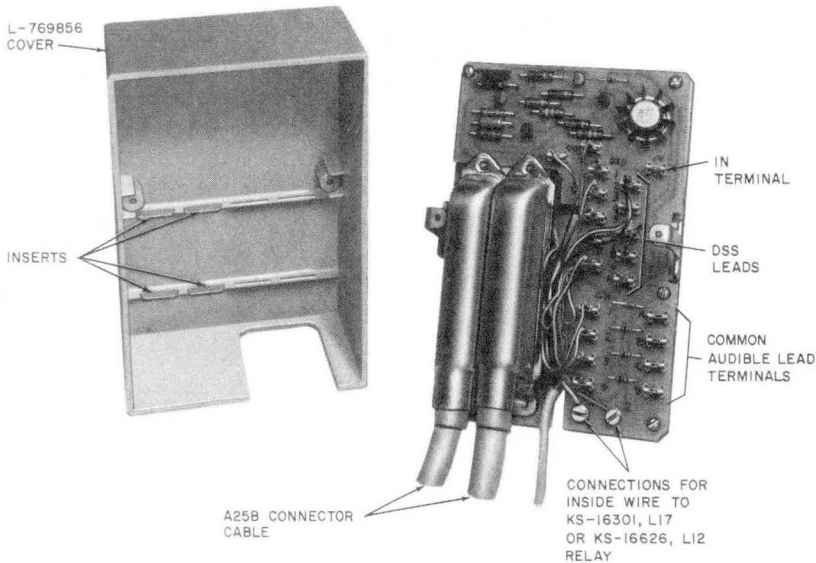

Fig. 16—♦25A Apparatus Unit♦
- (1) Remove the cover and mount the base pan assembly (Fig. 16 and 17) at the desired location (use appropriate fastener per BSP 080-720-105).
- (2) Mount the KS-16626 L12 relay set per BSP 463-120-100 or the KS-16301 L17 relay per BSP 463-110-100.
- (b) Connect the 25A apparatus unit (Fig. 16) as follows:
- (1) Connect the auxiliary signal and power supply to KS-16626 L12 relay set and/or KS-16301 L17 relay set per BSP 463-120-100 or BSP 463-110-100, respectively.
- (3) If the auxiliary signal is to respond to any combination of common audible signals (CA 1-4), move the spade-tipped lead associated with that line and/or lines to the A through D terminals, respectively.
- (4) Insert system cable or cables (Fig. 16).
- (5) Position inserts (Fig. 16) inside cover to hold cables securely when cover is replaced.
- (6) Replace cover.